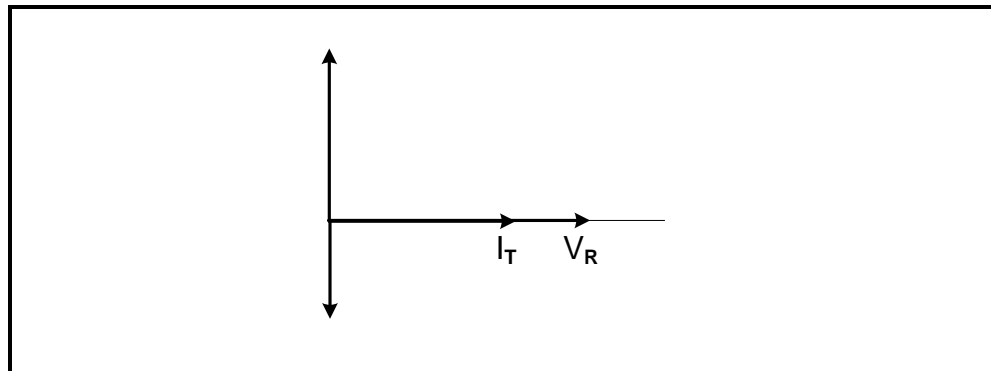

FIGURE 3.2.5: PHASOR DIAGRAM
- 3.2.5 Complete the phasor diagram in FIGURE 3.2.5 below in your ANSWER BOOK.